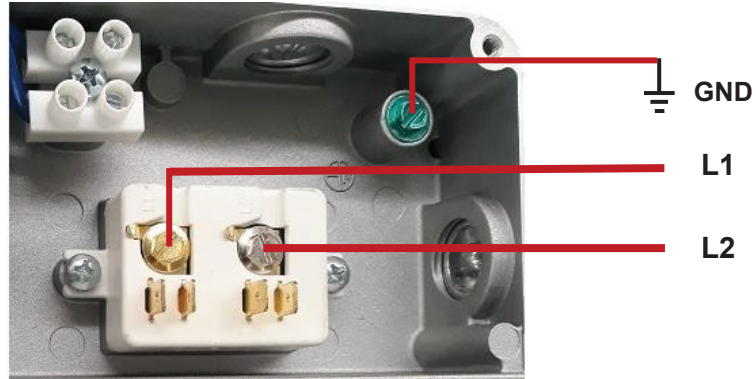

**Figure 1 – High and Low Voltage Compartments**
1. Remove the four (4) slotted head hex washer screws securing the User Interface Cover to the wiring compartments (Figure 1). Set the cover aside.
Input power and control signals are via conduit connections. There are two compartments: See Figure 1 on page 8.